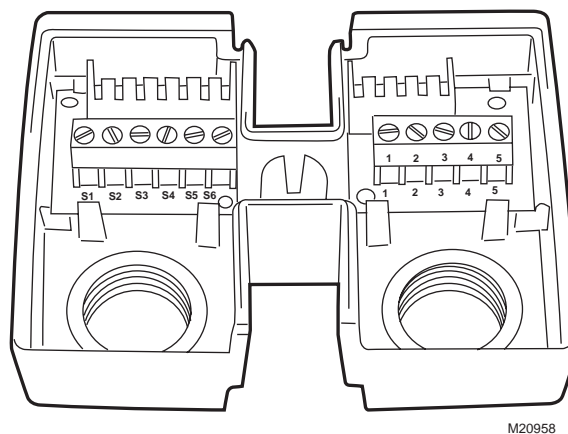

Fig. 9. Terminal block details.
(See Fig. 9 and 10.)
See Fig. 9 through 14 for typical wiring details.
2. Check damper position and make sure that 24 Vac is present at the appropriate connections. (See Fig. 9.)